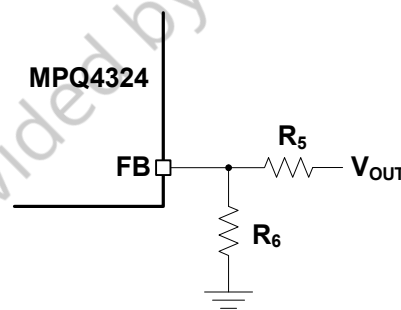

Figure 1: Feedback Divider Network with Adjustable Output
7. To use the enable (EN) function, apply a digital input to the EN pin. Pull EN above 1.02V to turn the regulator on; pull EN below 0.85V to turn it off. If the EN function is not used, EN can be connected directly to V_{IN} .
9. Set the output voltage (V_{OUT}) using the external resistor divider (see Figure 1).